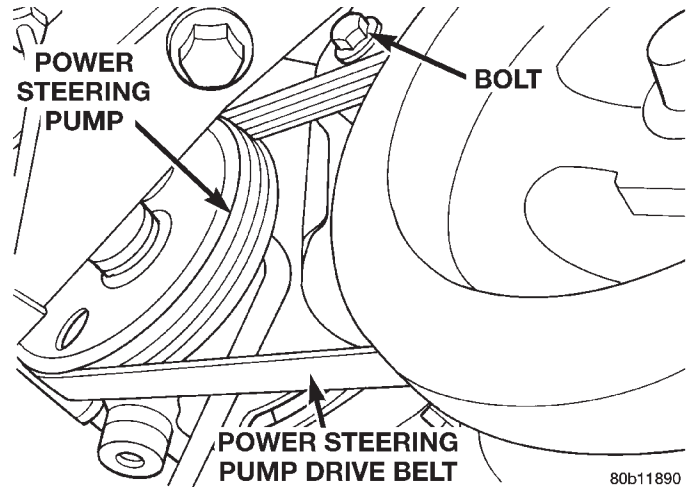
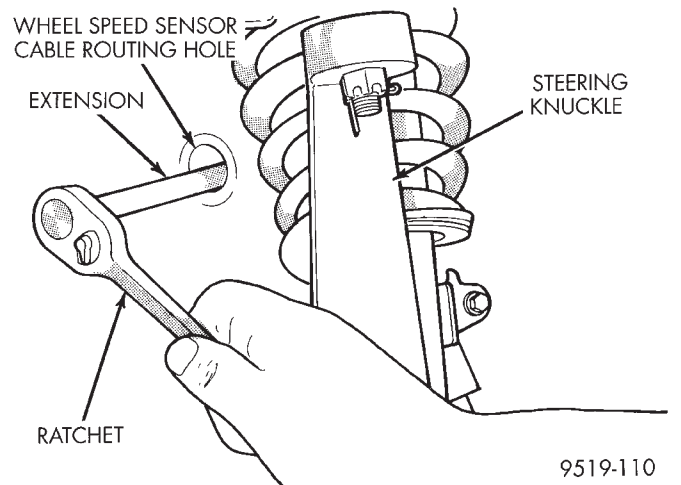
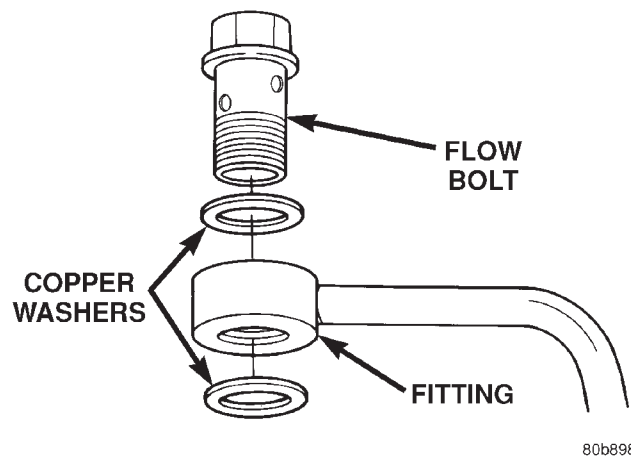
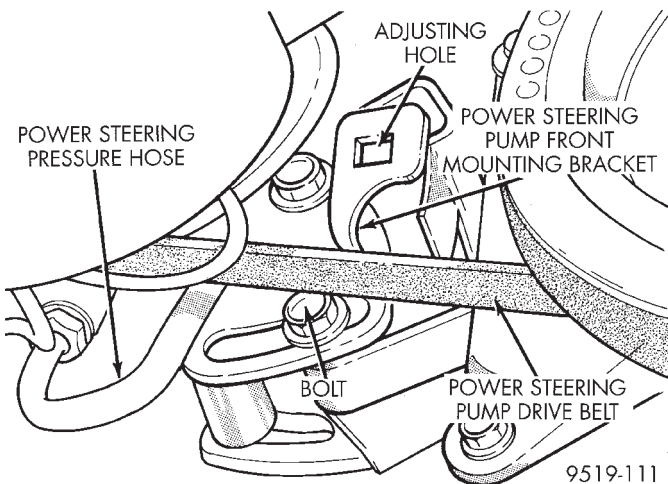

Fig. 10 Power Steering Pump Mounting Bolt
Fig. 11 Access To Top Mounting Bolt For Power Steering Pump
Fig. 14 Pressure Fitting And Washers
Fig. 15 Power Steering Pump Front Mounting Bracket Adjusting Hole
- (14) Remove bolt attaching top of power steering pump front bracket to the cast aluminum mounting bracket (Fig. 10). Access to the top bolt is through the wheel speed sensor cable routing hole (Fig. 11).
(15) Remove power steering pump drive belt (Fig. 10) from power steering pump pulley.
(6) Loosely install bolt attaching top of power steering pump front bracket to the cast aluminum accessory drive bracket (Fig. 10). Access to install the bolt is through the wheel speed sensor cable routing hole (Fig. 11).
(7) Using a lint free towel, wipe clean all open power steering hose ends, and power steering pump fittings.
(8) If the vehicle is not equipped with variable-assist power steering, install a new O-ring on end of power steering pressure hose fitting. Lubricate all O-rings using fresh clean power steering fluid.
(9) If vehicle is equipped with variable-assist power steering, install a copper washer on each side of the power steering pressure hose banjo fitting, then loosely install the flow bolt through the center (Fig. 14).
(11) Install power steering pump drive belt on power steering pump pulley.
(12) Install a 1/2 in. breaker bar in the square adjusting hole in the front power steering pump mounting bracket (Fig. 15). Then using breaker bar rotate power steering pump to obtain the correct drive belt tension. See Accessory Drive Belts in Group 7 Cooling System of this service manual for the correct drive belt tension specification. When correct drive belt tension is obtained first tighten the bottom 2 adjusting slot bolts at the power steering pump cast mounting bracket to a torque of 54 N·m (40 ft. lbs.). Then tighten the power steering pump mounting bracket top pivot bolt to a torque of 54 N·m (40 ft. lbs.). Access to tighten and torque the bolt is through the wheel speed sensor cable routing hole (Fig. 11).